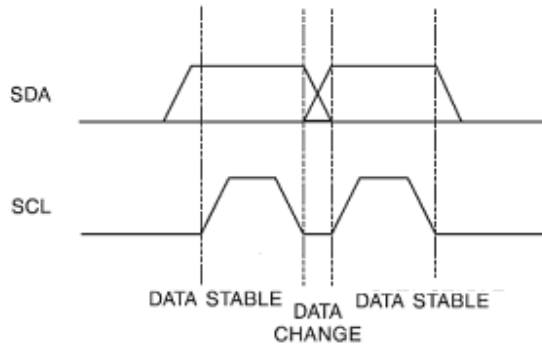

Figure 6: Clock and Data Transitions
**CLOCK and DATA TRANSITIONS:** The SDA pin is normally pulled high with an external device. Data on the SDA pin may change only during SCL low time periods (see Figure 6). Data changes during SCL high periods will indicate a start or stop condition as defined below.